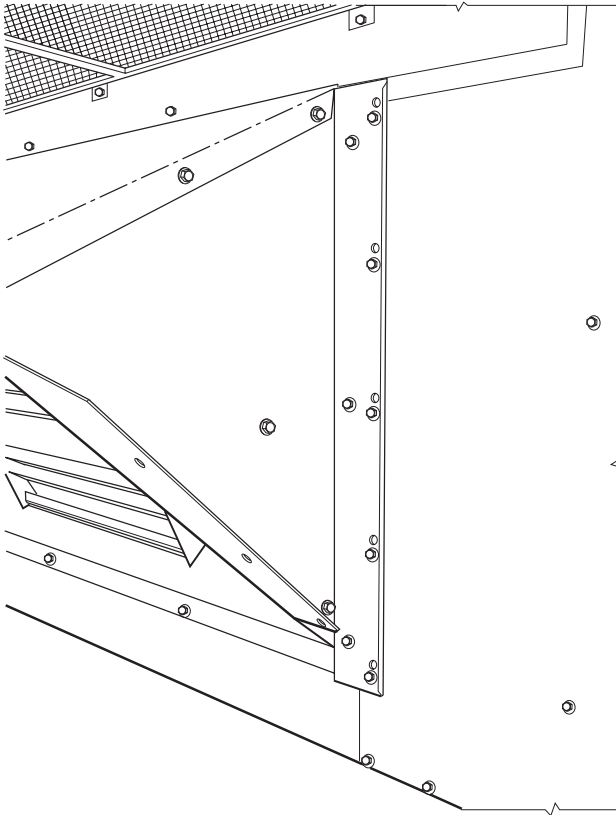

Fig. 20 — Bracket and Hood Positioning
4. With screws saved from Step 1, install brackets on each side of damper assembly. See Fig. 20.